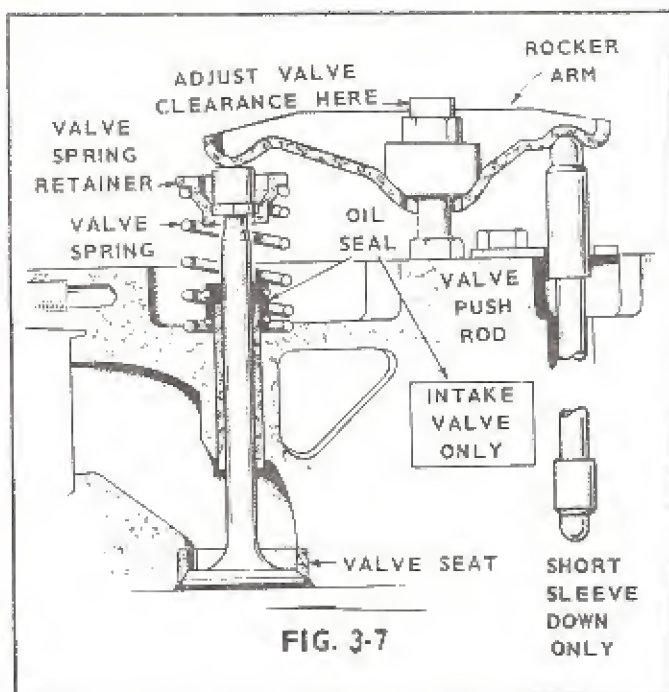

FIG. 3-7
3. Check cylinder head-bolt torque prior to valve clearance adjustment. Torque should be 28 to 30 foot-pounds. Valve clearance is adjusted with the locknut which secures rocker arm to the cylinder head (see Fig. 3-7).